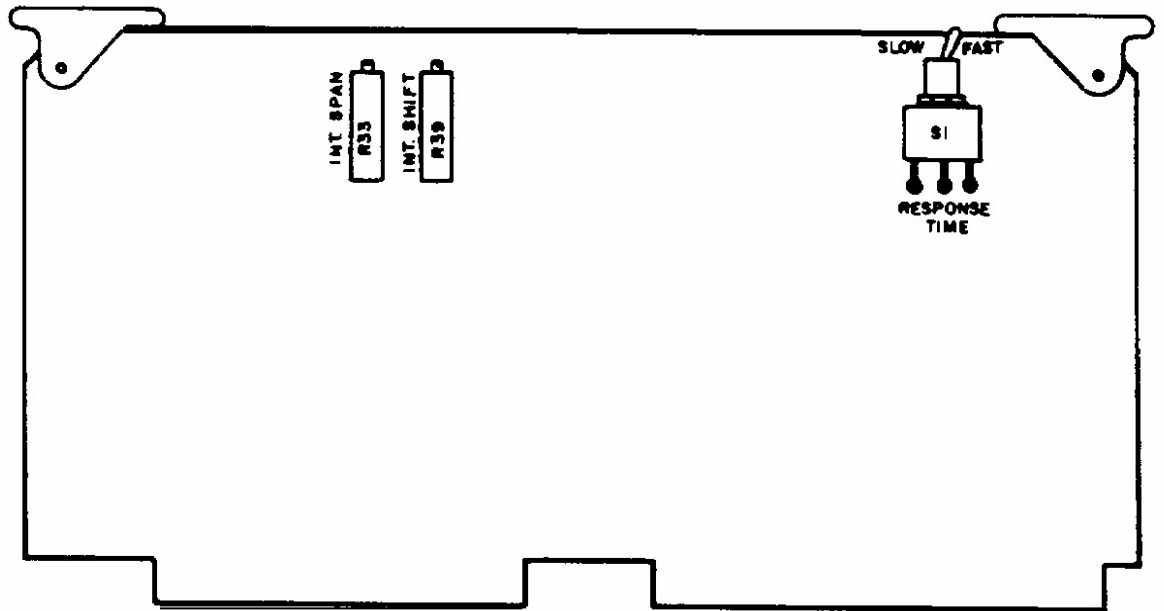

Figure 15-2 Main Circuit Board
15.1.6 EXPAND SELECT switches (on main circuit board, see Figure 15-2)